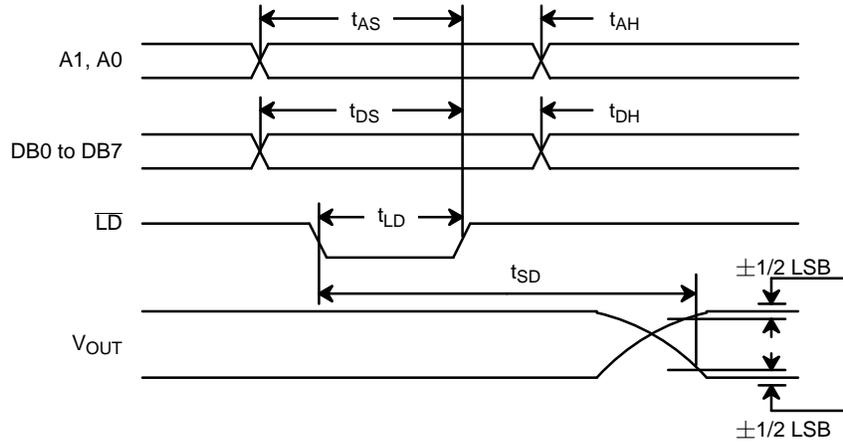
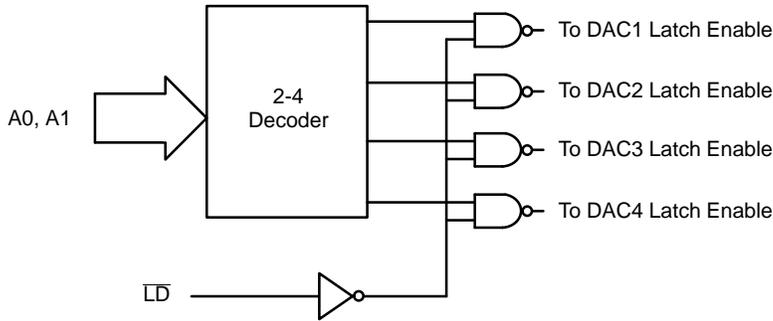

Figure 1. Timing Diagram
Figure 2. Input Control Logic (Simplified) Block Diagram
- 4 See Figure 1.
The MP7643 allows direct interface to most microprocessor buses without additional I/O circuitry. *Figure 1.* and *Figure 2.* describe the operation, specification and interface characteristics of the logic port.